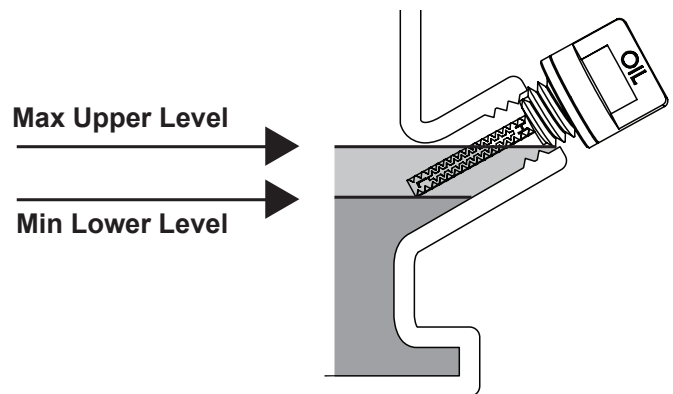

FIGURE 32
- Check **oil level** before each use. Maintain engine oil at level shown in figure 32 below.